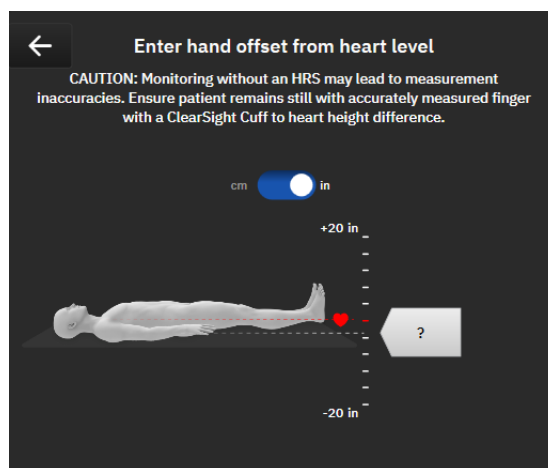

Figure 10-6 Vertical offset entry screen
- 5 The **Zero** screen in this mode (shown in figure 10-6) will depict a vertical scale bar to represent the offset of the hand relative to the heart; the heart level is set at zero. A positive offset signifies a patient position where the hand is above the heart. Select the units of the scale bar: **cm** (centimeters) or **in** (inches).